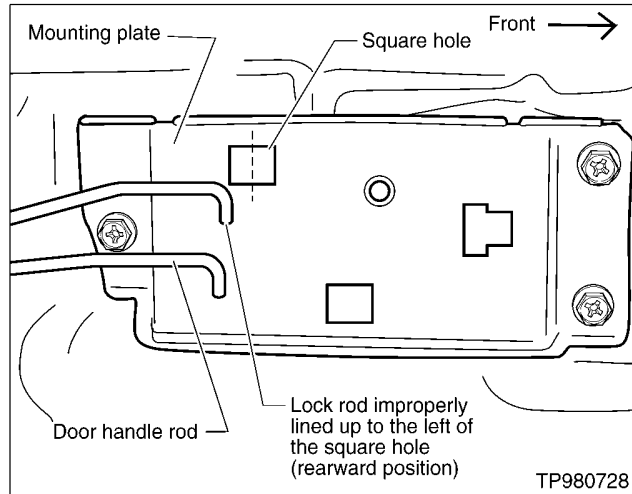

Figure 1
6. Look at the position of the lock rod in relation to the square hole in the door handle mounting plate. An improperly positioned lock rod will be too short and will line up to the left of center of the square hole when the lock rod is moved into the rearward position (see Figure 1).